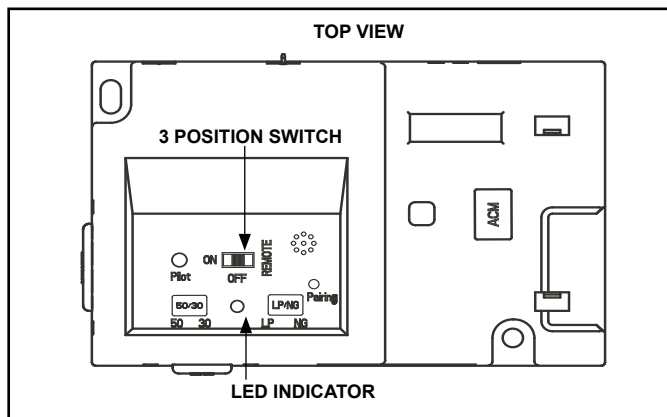

Figure 3.4 IFT-ECM
1. The Electronic Control Module (IFT-ECM) has a three-position ON/OFF/REMOTE selector switch that must be set for proper operation. See Figure 3.4. When changing switch positions, it is important to pause in each position for 1-2 seconds.